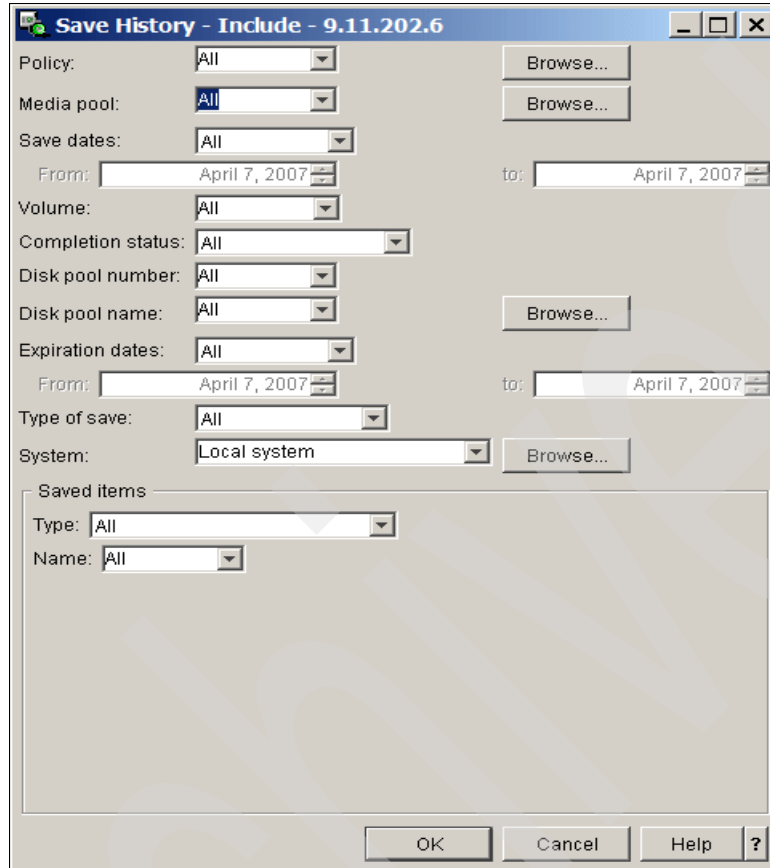

Figure 6-37 Limit selection for restore
3. On the window that is displayed next, you have the possibility to limit the saves from which you choose the object to restore. You can limit them to a specific backup policy, media pool, or range of dates. In our example, we leave it as default: all backup policies, all media pools, all dates, and so on. This is shown in Figure 6-37.